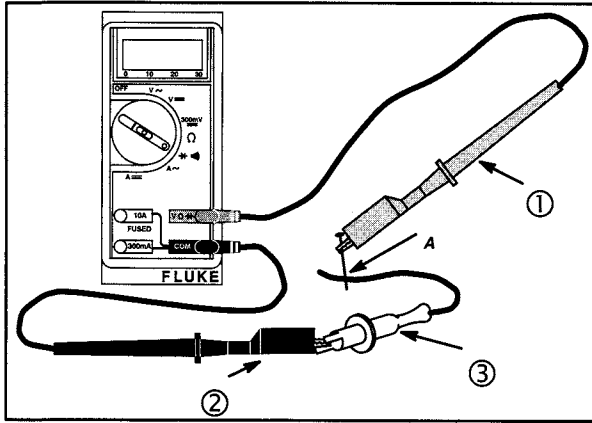

Fig. 14
1. Insert RED test lead (1) into **VΩ** receptacle in meter.
2. Insert BLACK test lead (2) into **COM** receptacle in meter.
4. Attach RED test lead clip to point A and BLACK test lead clip to the stator output lead (3), **Fig. 14**. (It may be necessary to pierce the wire with a pin as shown.)